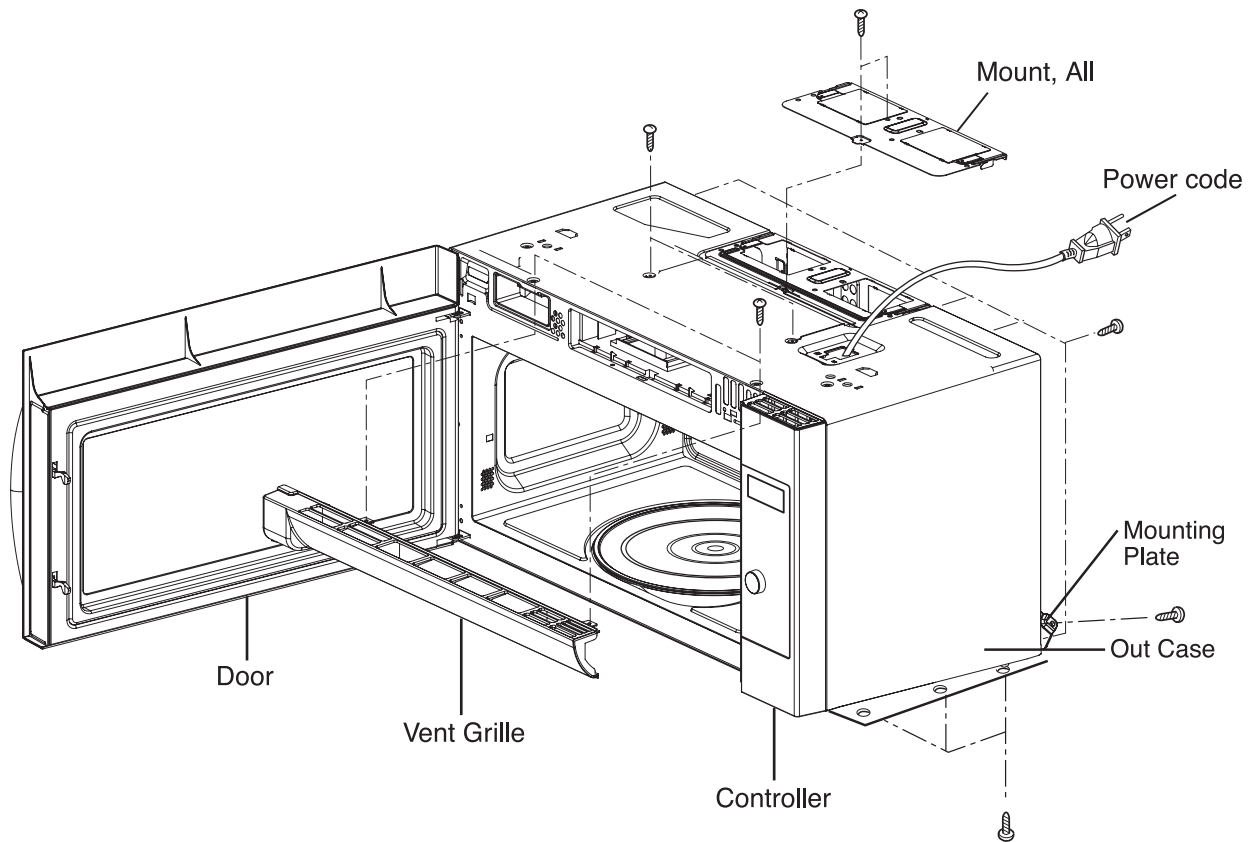

Figure 4
B. REMOVING THE OUT CASE(Figure 4)
- (1) Remove the vent grille by removing two screws securing it to the out case.
- (2) Remove two screws securing it to the air duct.
- (3) Remove the mounting plate by turning the screws(1 or 2 screws)securing it to the out case.
- (4) Remove two screws on the left central edge and one screw on the right central edge of Base plate.